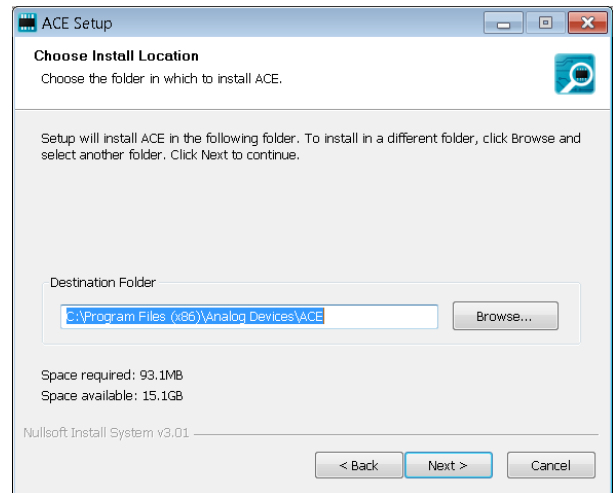

Figure 6. Choose Installation Location
6. Click Browse ... to choose the installation location and then click Next > (see Figure 6).